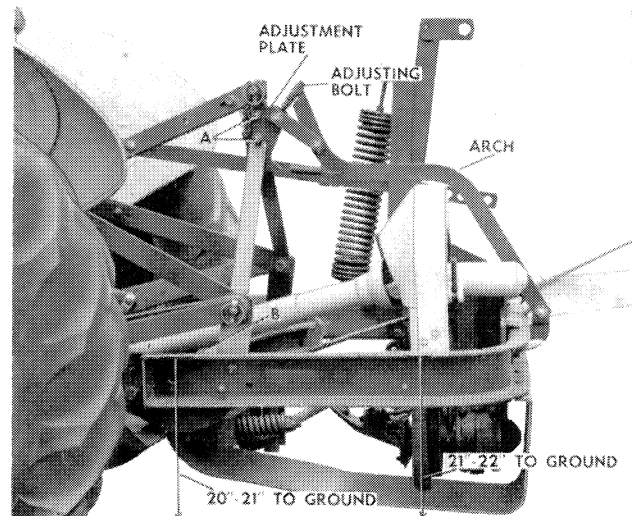

FIGURE 18
2. Adjust the length of the support bars so the front of the frame is 20 to 21 inches from the ground as shown in Figure 18. **To properly level the frame the right support bar**
3. Adjust the rear frame height by loosening the bolts at point A, Figure 18 and sliding the slotted adjustment plate up or down as required. Be sure there is $\frac{1}{4}$ " clearance at points B, between the PTO shield and the front cross member when the final adjustment is made. The rear of the frame should be no more than 1 inch higher than the front.
4. The arch spring must be adjusted after mower operation starts. This arch should "break up" only when the skid bottoms if the tractor goes through a deep ditch. If under normal operation the arch "breaks up", shorten the adjusting bolt, Figure 18, $\frac{1}{4}$ turn each time until the situation ceases to exist.